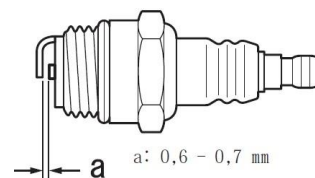

Fig. 21
WARNING! In case of difficulty in starting the chain saw, check the spark plug. (Fig. 21).
WARNING! If the engine does not start, it is possible that the spark plug (**Fig. 21**) is damp; in this case, remove it, dry it and then pull the starter cord several times before reassembling the spark plug to clean and ventilate the combustion chamber.
2. Flooded engine	2. Remove and dry the candle (Fig. 21) (see "CANDLE" paragraph)